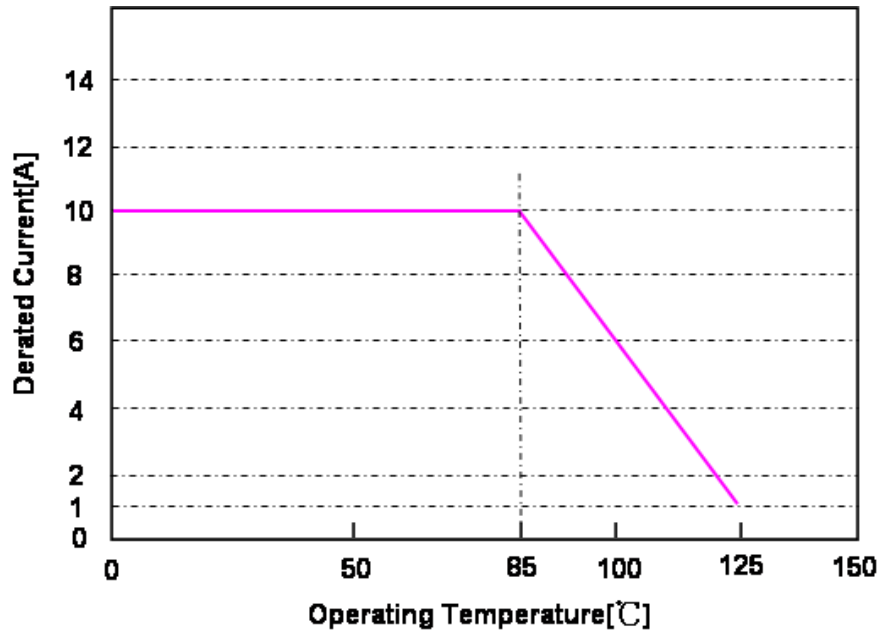

**Fig. 5.3.3-1**
- d. Definition of Rated Current (Ir): Ir is direct electric current as chip surface temperature rose just 20℃. against chip initial surface temperature(Ta). (see **Fig. 5.3.3-2**):